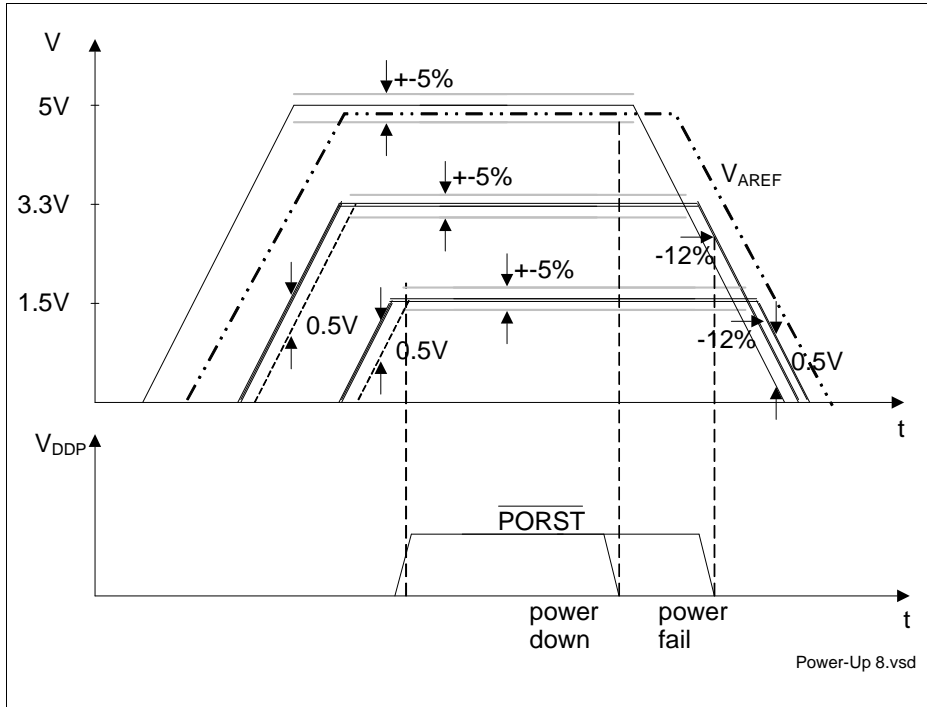

Figure 26 5 V / 3.3 V / 1.5 V Power-Up/Down Sequence
- At any moment, each power supply must be higher than any lower_power_supply - 0.5 V, or: $V_{DD5} > V_{DD3.3} - 0.5 \text{ V}$; $V_{DD5} > V_{DD1.5} - 0.5 \text{ V}$; $V_{DD3.3} > V_{DD1.5} - 0.5 \text{ V}$, see Figure 26.